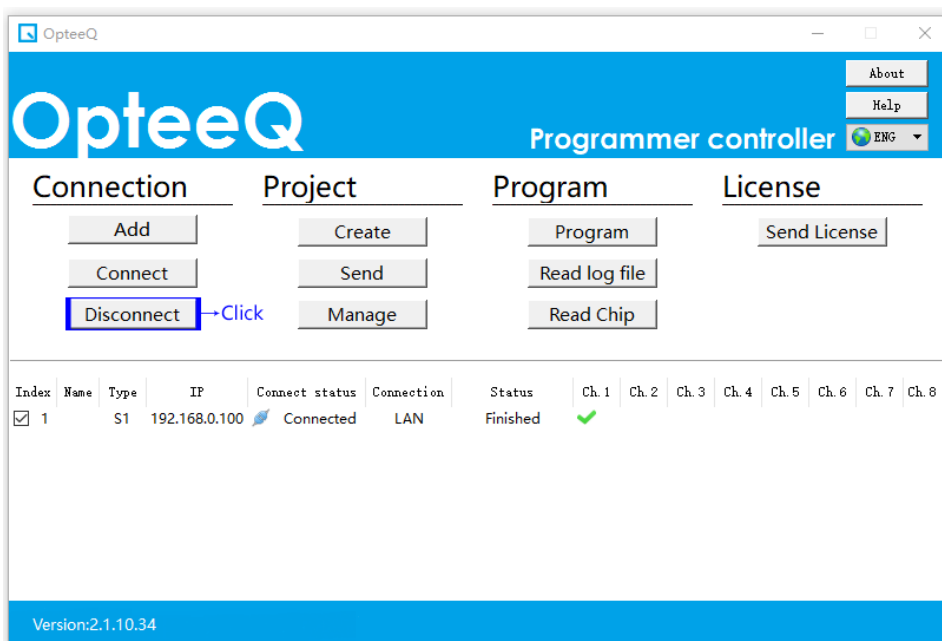

Figure 4.21: Programmer Disconnection
7)If the programmer is not used any more after successful programming, please click "Disconnect Programmer", as shown in Figure 4.21.